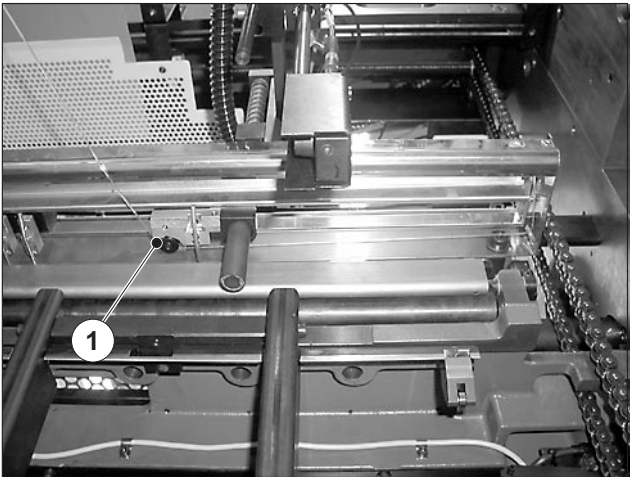

Fig. 47
6. Detach the rope next to the lateral sheet separation blower (Fig. 47/1).